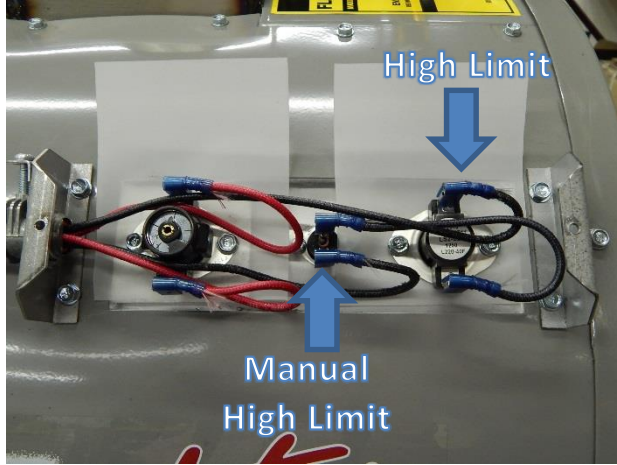

Figure 3: Location of both the high limits
Step 6: To access the high limit switch, you must first remove the cover by unscrewing the two screws at its sides. See Figure 3 for high limit cover location.